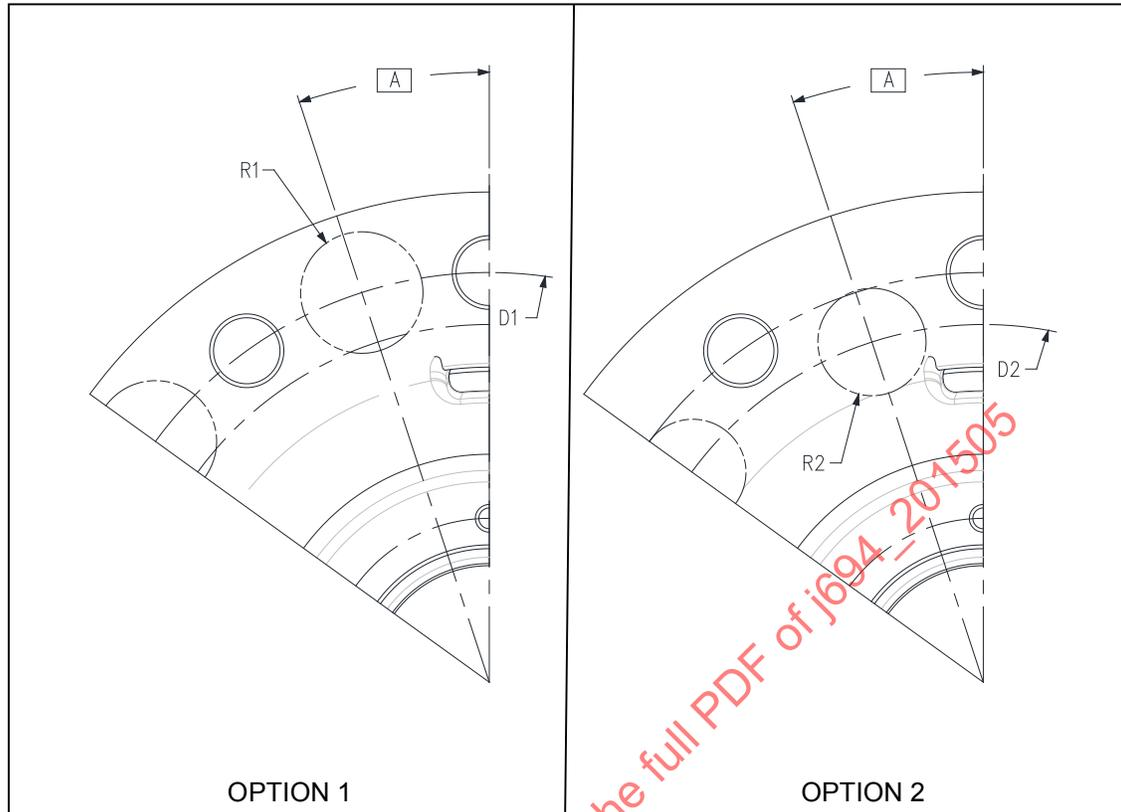

Figure 4 - Interface area of hub and wheel
Figure 4 illustrates the least material condition of the most common areas of contact for mounting systems II, III, and IV. Only one option in Figure 4 can be used for each hub and wheel. Testing has demonstrated that for the most common mounting (system III), that there is no measurable degradation in wheel performance when tested per SAE J267. One assembly configuration was tested for each option. As part rigidity may vary, consult wheel manufacturers for specific configurations. The diameters specified represent holes where no contact is offered to mating wheels.
5.2.2.3 Definitions of Hub or Drum Interface Dimensions - Reference Figure 4.